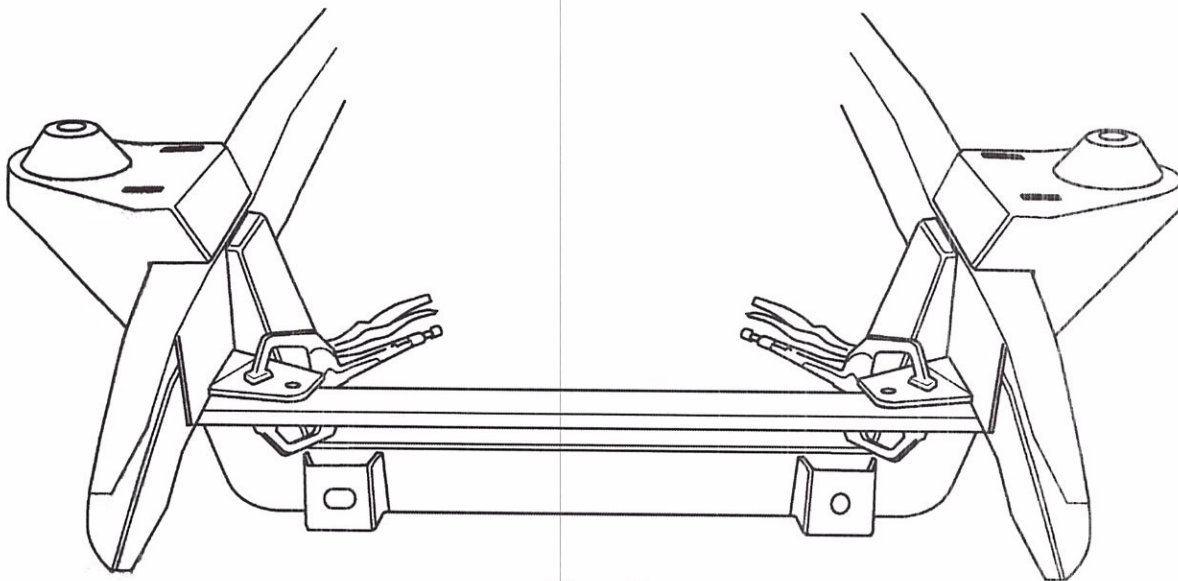

Figure 7
8. The radiator support tabs are next. Clamp the two tabs to a flat bar as shown in Figure 7. They should be spaced so the holes are spaced 19-3/16" apart, center to center. Position the tab and bar assembly up into the frame, so the outer edge of the tab is against the inside bottom edge of the frame. If they fall under the frame, grind the outside edge of the tabs so the edges of the tabs end up inside the bottom inside edge of the frame rail. You will see that the actual radiator mounting surface is tilted back, to give the radiator the correct mounting angle.